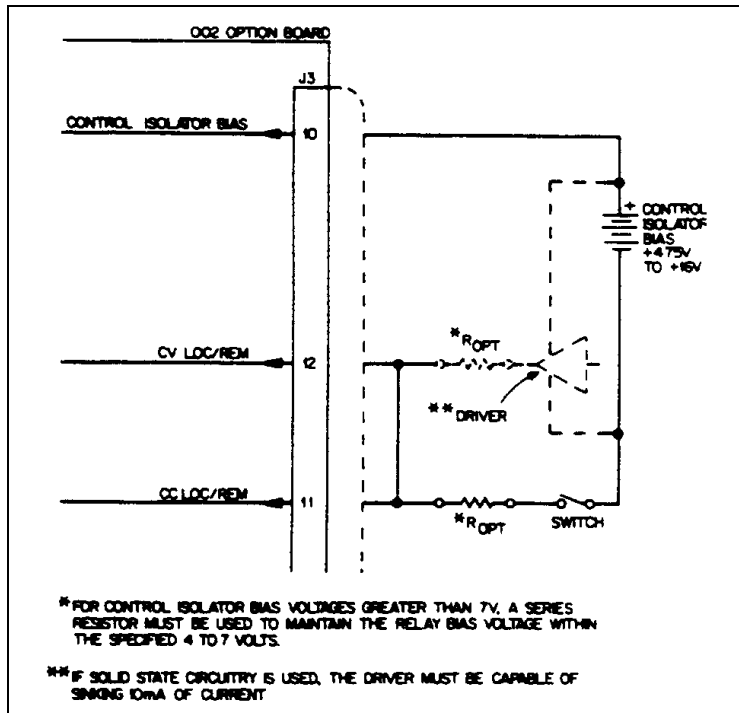
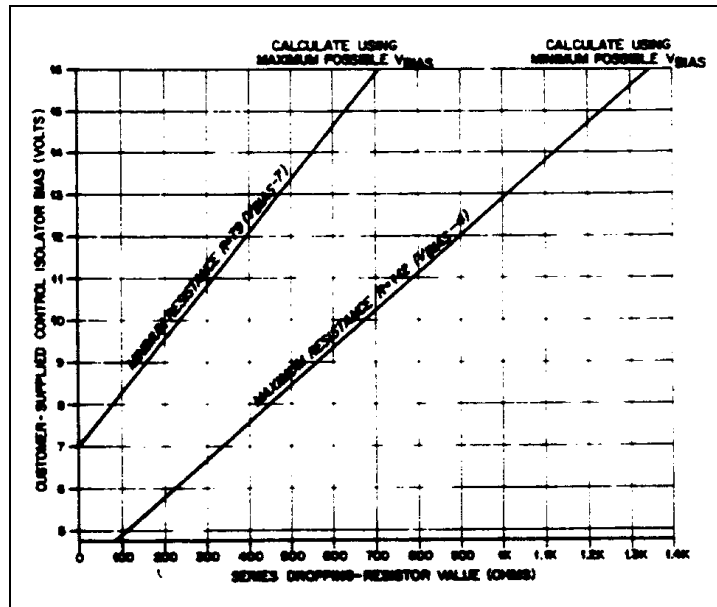

Figure A-3. Accessing Local Programming while in Remote Programming Mode
Figure A-4. Calculating Value of Series Dropping Resistor
Local Programming (Figure A-3). The supply can be switched back and forth between remote and local programming while initially checking out a remote programming circuit. For proper operation of local programming, the user must supply the bias voltage (CONTROL ISOLATOR BIAS). The Control Isolator Bias voltage can range from +4.75V to +16V depending upon the user's interface circuits. Refer to Specifications Table A-1. For local programming, take the Control Isolator Bias common and connect it to both of the LOC/REM terminals, and position mode switch as indicated in Operation.
Although CONTROL ISOLATOR BIAS can be +4.75V to +16V, a supply voltage of more than 7V may damage the relays. Therefore, if CONTROL ISOLATOR BIAS exceeds 7V it is necessary to use a resistor in series with each of the LOC/REM terminals. Figure A-4 provides a graph from which the proper series resistance value can be determined. Note that the tolerances of both the Control Isolator Bias and the resistor must be taken into account. The actual Control Bias used in Figure A-4 is obtained after subtracting any driver gate voltage drop.
If solid state circuitry is used, connect the Control Isolator Bias to a driver capable of sinking 10mA of current, then connect the driver's output to both of the LOC/REM terminals. Refer to Figure A-3. Either method will enable relays K1 (CV) and K2 (CC) to switch regulation to the front panel VOLTAGE and CURRENT controls. For Control Isolator Bias voltages greater than 7V, a resistor (R_{opt}) must be used in series with the Control Isolator Bias common or the Driver's output. Figure A-4 provides a graph for determining the proper series resistance value depending on the Control Isolator Bias voltage being used.
CAUTION Observe the caution described in Local Programming (Figure A-3) paragraph, page 96.